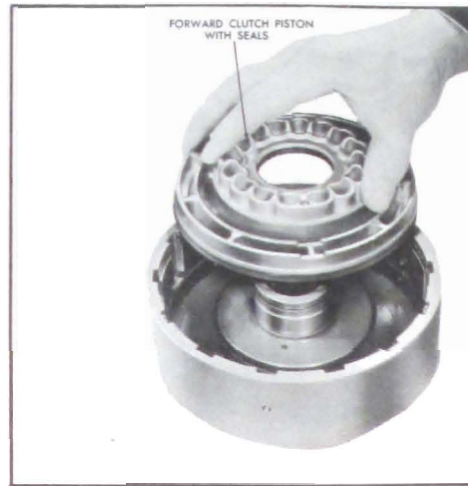

Figure 5-617
8. Remove the clutch piston. See Figure 5-617.